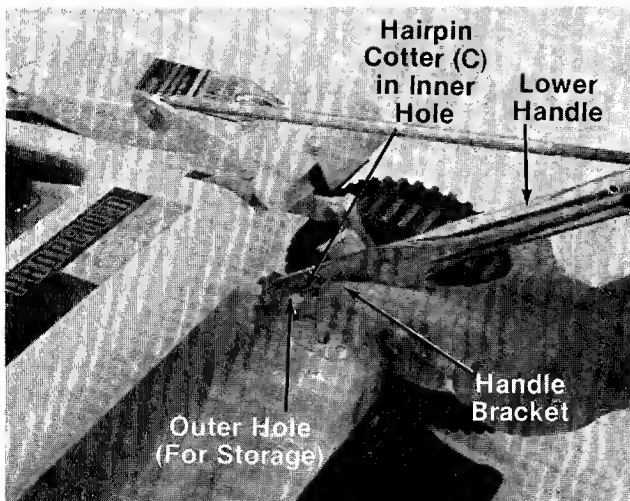

FIGURE 2.
- C (3) Hairpin Cotters
- D (1) Spring
- E (2) Curved Head Carriage Bolts
- F (2) Lock Washers 5/16" I.D.
- G (2) Hex Nuts 5/16-18 Thread
- H (1) Hex Bolt 1/4-20 x 1.50" Long
- I (1) Hex Lock Nut 1/4-20 Thread
- J (2) Cable Ties
3. Fasten lower handle in position over weld pins in handle mount brackets on deck. Secure with hairpin cotters (C) in inner hole on weld pin. See figure 2.